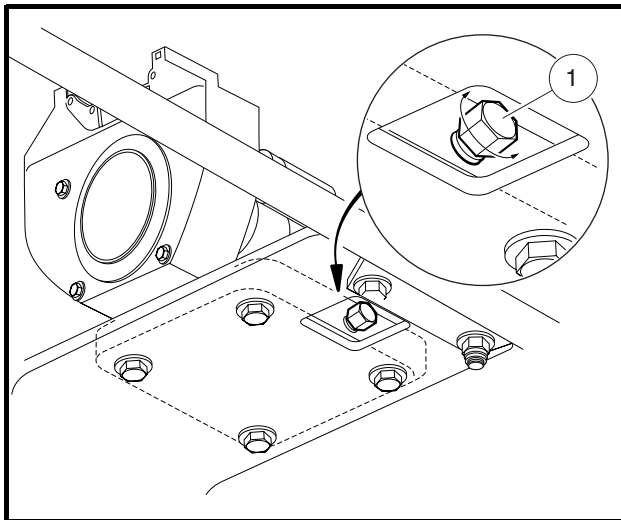
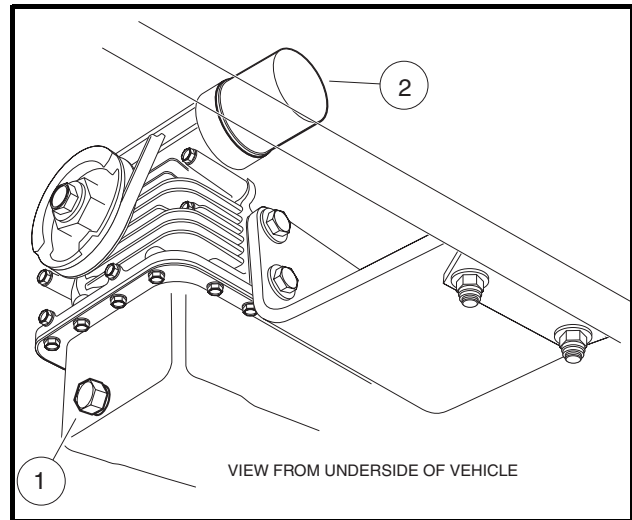
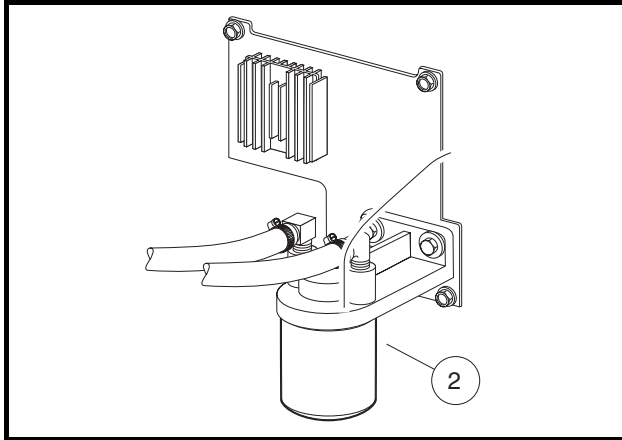

Figure 22 Engine Oil Drain Plug and Pan – Gasoline Vehicles
Figure 23 Engine Oil Drain Plug and Oil Filter – Diesel Vehicles
Figure 24 Replace Engine Oil Filter – Gasoline Vehicles
4. Position a pan designed for oil changes under the drain plug (**Figure 23 or Figure 24, Page 36**).
5. From the underside of the vehicle, use a socket- or box-end (do not use an open-end) wrench to remove the drain plug (1). Turn the plug counterclockwise and drain the engine oil into the pan. **See following WARNING.**
7. Use a socket- or box-end (do not use an open-end) wrench to replace the oil drain plug (1) (**Figure 22 or Figure 23**). Turn the plug clockwise and tighten to 29 ft-lb (40 N·m) for gas vehicles, 31 ft-lb (42 N·m) for diesel vehicles.
2. Place the oil drain pan under the engine oil filter (2) (**Figure 23 or Figure 24, Page 37**).